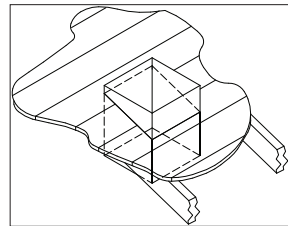

Figure 20
6. Run the Support Box through the roof as shown in **Figure 20**, and place it so that the bottom of the Support Box protrudes at least 2" below the finished ceiling. Align the Support Box vertically and horizontally with a level. Temporarily tack the Support Box in place through the inside walls and into the roof sheathing.